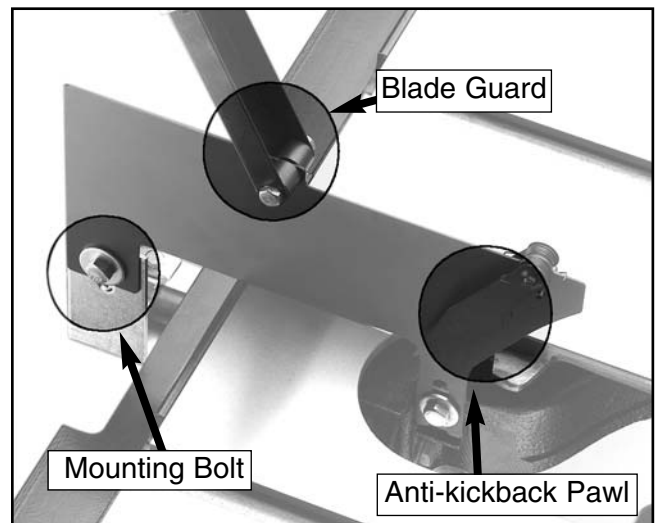

Figure 18. Blade guard and splitter in place.
2. Slip the blade guard/splitter over the mounting bolts as shown in **Figure 18**. The washers should be between the bolt head and the slots. Tighten the bolts to secure the blade guard/splitter.